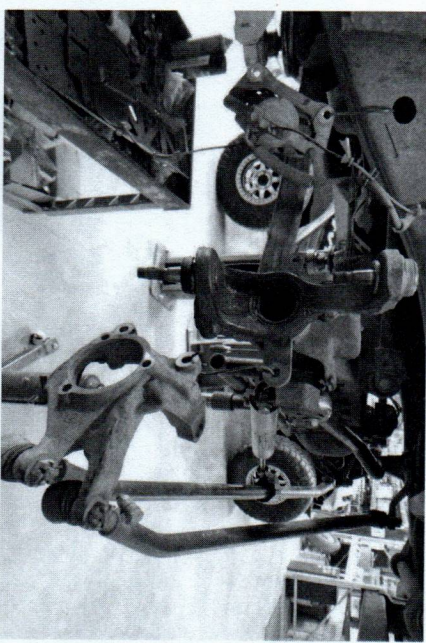

Figure 7. Knuckle Removed, Hanging from Axle Housing
8. Remove cotter pins from old ball joints. Loosen the nuts (27mm) on the lower ball joints. Remove the nuts (21mm) and ABS line clips from the upper ball joints. Knock the knuckles loose by either striking the knuckle with a ball peen hammer in the area of the ball joint stud taper or using an air hammer. Separate the lower ball joint taper first, then the upper. Remove the nuts and the knuckles. If the tie rod and drag link were not removed, be sure to hang the knuckle so that the tie rod ends and boots are not damaged. See Figure 7.